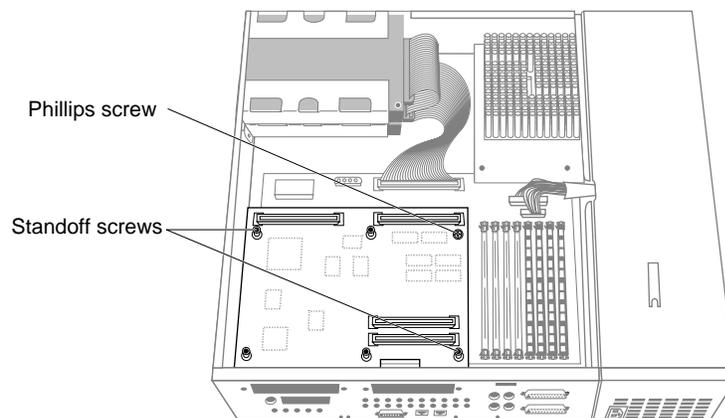

Figure 2-17 Inserting the Screws on the Graphics Board
- Using the open-ended wrench, insert and tighten the two standoff screws that you removed earlier, in the locations shown in Figure 2-17. As you tighten the screws, alternate among them so that the board is fastened evenly.
- Using the Phillips screwdriver, insert and tighten the screw on the graphics board, in the location shown in Figure 2-17.